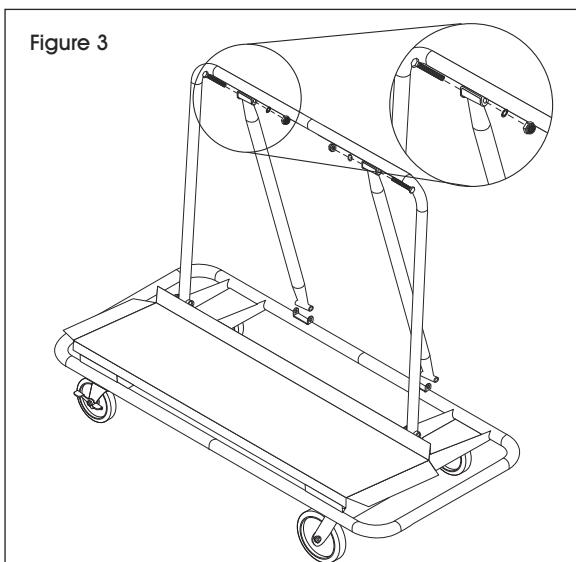

Figure 3
3. Attach supports to top of left and right frames by aligning top of supports inside brackets on left and right frames and securing with long bolts, small washers and locknuts. (See Figure 3)